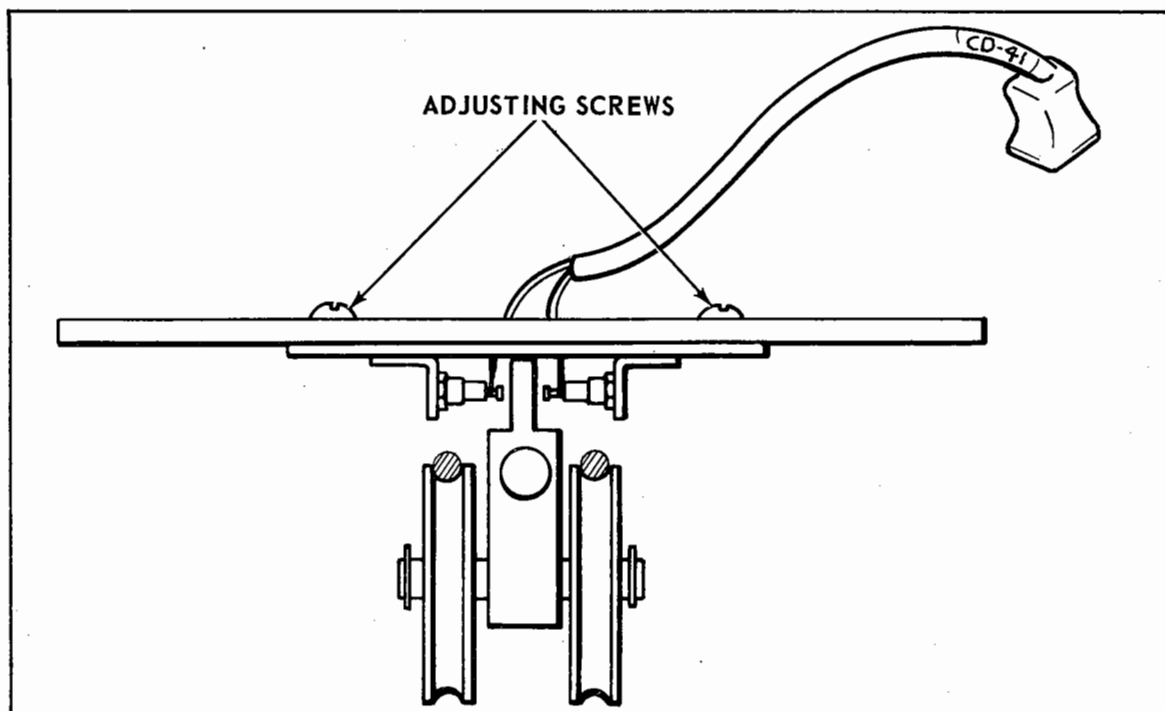

Figure 9-13. Pendulous Sensor Without Amplifier
- d. Centering procedure for Pendulous Type Trim Sensor. (Refer to Figure 9-13.)
- a. Carefully loosen the two adjusting screws to permit the contact adjustment bracket to move with some friction. (Refer to Figure 9-13.)